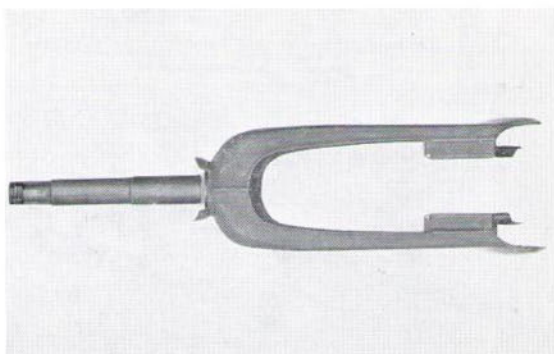

Fig. 4.13 Front fork
5. Loosen the stem nut, remove the top cone race and pull out the front fork. (Fig. 4.13)